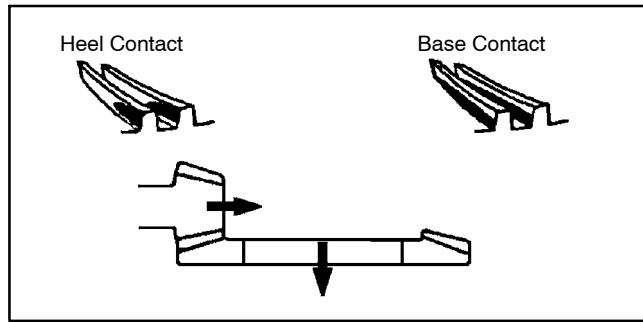

Figure 40
Study the different contact patterns (Figs. 40 and 41) and correct gear engagement as necessary.
1. If contact is toward the heel or base of the gear (Fig. 40):